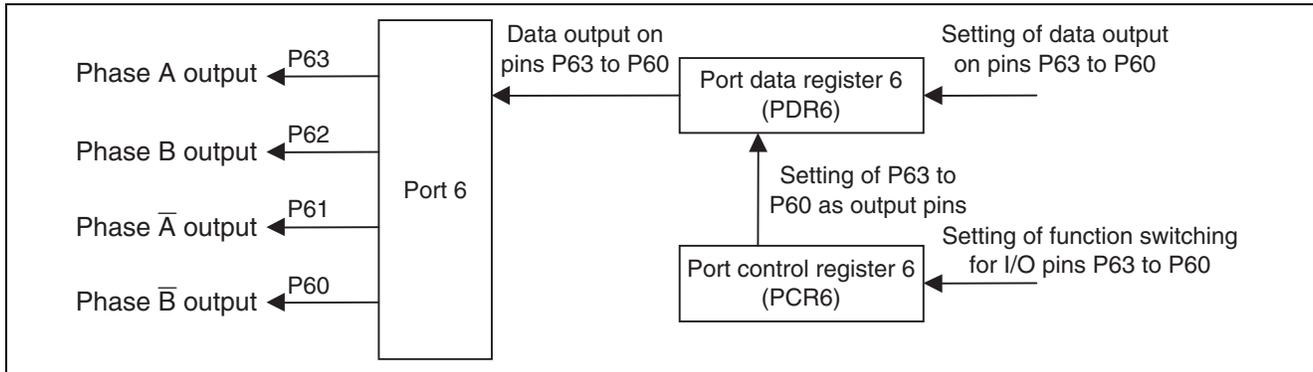

Figure 4 Block Diagram of Port 6 Functions
2.4 Port 6 is an 8-bit I/O port. This sample task uses P63 to P60 of port 6. Figure 4 is a block diagram of port 6. The functions of port 6 are explained below.